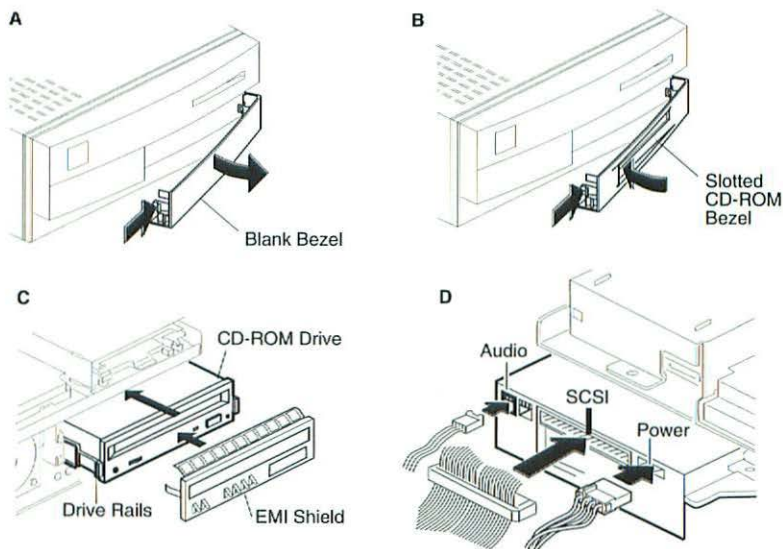

Figure 2 CD-ROM Drive Upgrade
2. From the inside of the top cover, squeeze in the tabs of the blank bezel and push out the bezel (Figure 2-A).
3. Push in the slotted CD-ROM bezel (Figure 2-B).
5. Attach the CD-ROM drive rails to the CD-ROM drive. Slide the CD-ROM drive about three quarters of the way into the drive mount chassis (Figure 2-C).
6. Connect these cables to the CD-ROM drive (Figure 2-D):